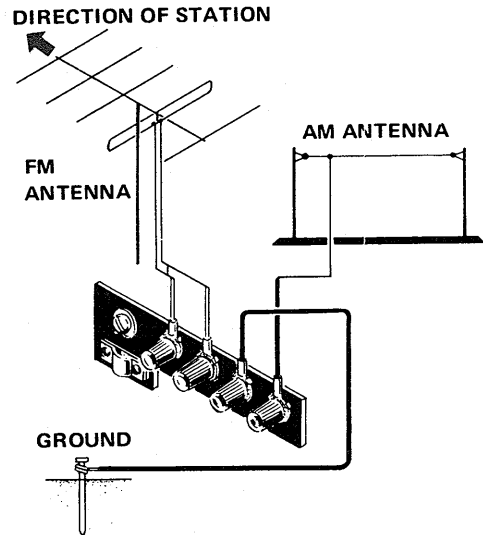

Fig. 7
- If orientation of the T-type antenna does not eliminate background noise, connect an outdoor antenna to the antenna terminals shown in Fig. 7. In lieu of an antenna, a combination FM/TV antenna may be used.
- If the lead antenna does not give satisfying results, erect an outdoor antenna and connect it as shown in Fig. 7. Special construction is not required: vinyl-insulated wire may be stretched between two masts or other supports.